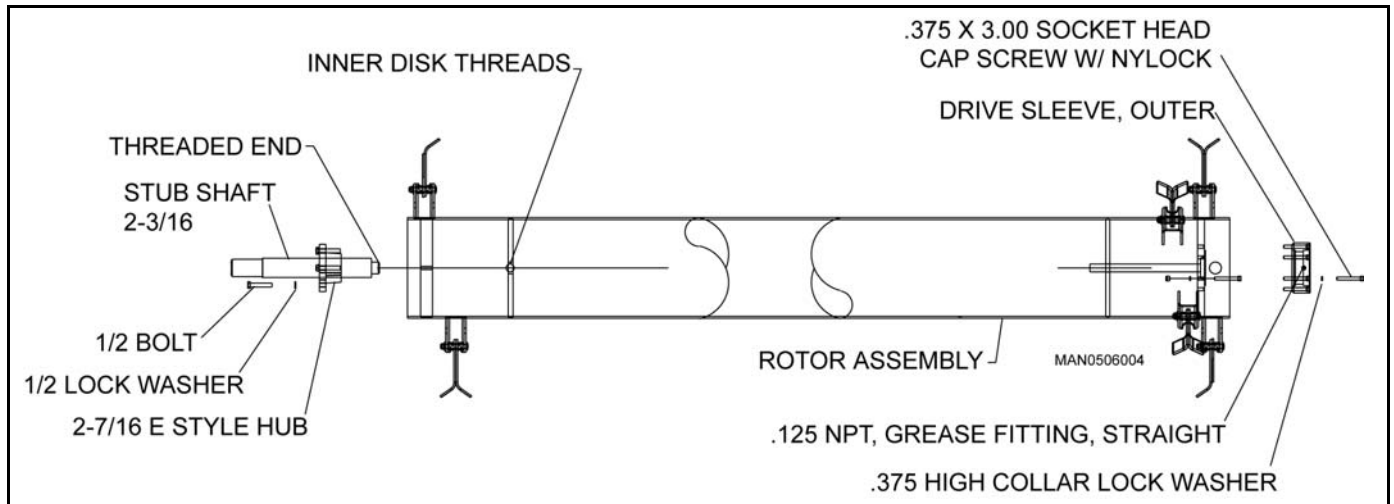

Figure 37. Stub Shaft Assembly
2. Remove three 1/2 x 2-1/2 hex bolts in taper lock hub and re-install bolts in three threaded holes (see Figure 37).